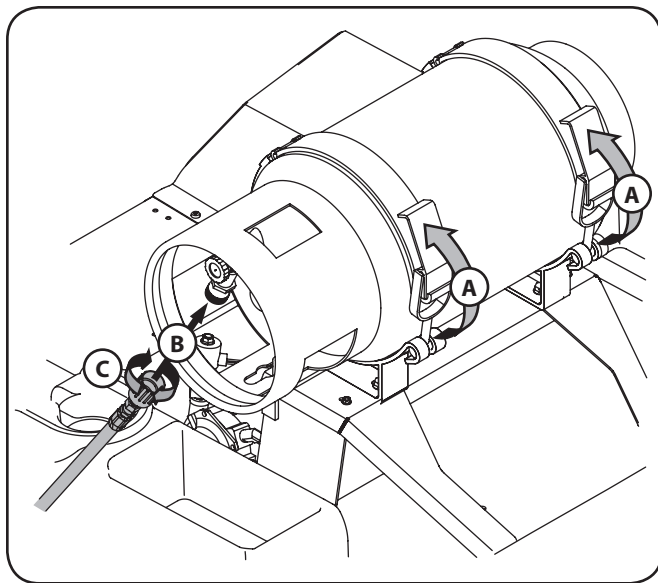

Figure 3-4
2. When the tank is in place, secure it by locking down the straps (A). See Fig. 3-4.
3. Install the regulator hose on the LPG tank fuel valve (B) and secure it by twisting it counter-clockwise (C). See Fig. 3-4.